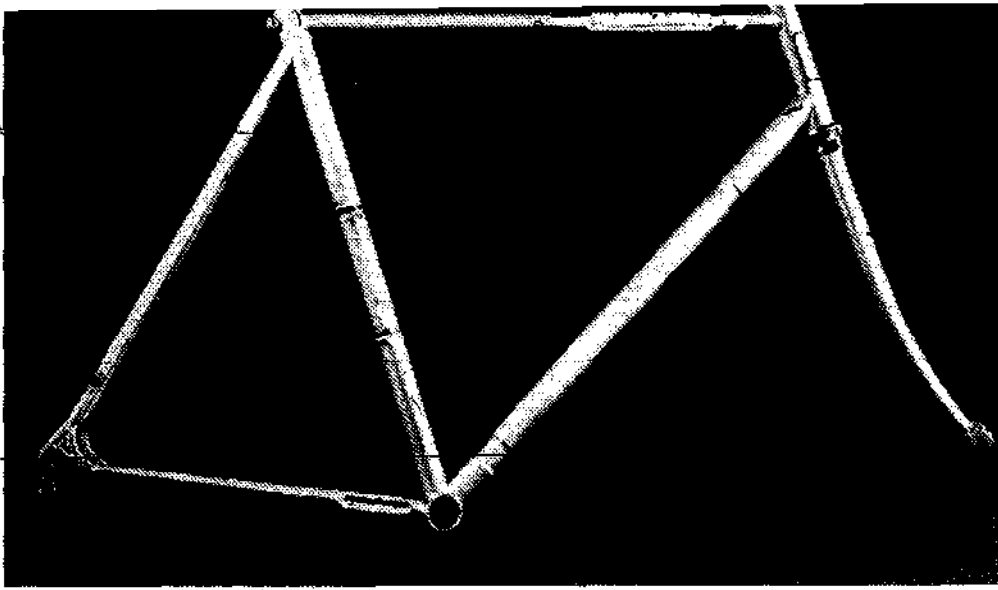

Fig. 2-18. A three and one-half pound Teledyne Titan bicycle frame.
**Titanium Frame.** A 3.5 pound titanium frame (Fig. 2-18) is made by *Telodyne Linair, Bicycle Division, 651 W. Knox St., Gardena, CA 90248*. The price for a frame is about \$550. The *Speedwell Gear Case Co. Ltd.*, of England plans to introduce another titanium frame in the United States.